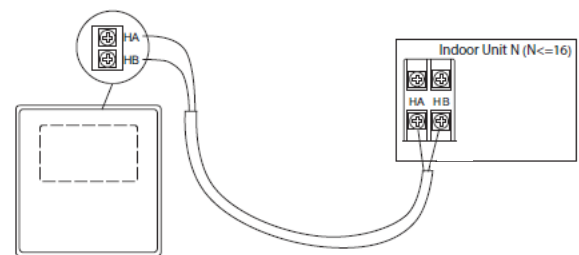
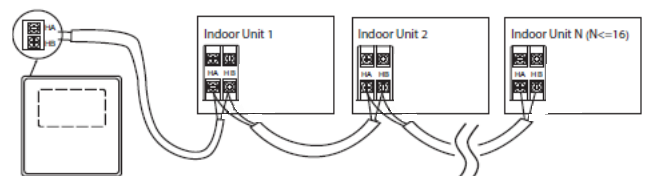

Fig. 5 — One-to-One Control Connection
Fig. 6 — Group Controller Connection
9. Connect one end of the shielded 2-core control cable to the indoor unit HA/HB terminal on the unit and other end to the controller HA/HB terminal. For connecting the controller to a single indoor unit see Fig. 5. For connecting the controller to multiple indoor units see Fig. 6.